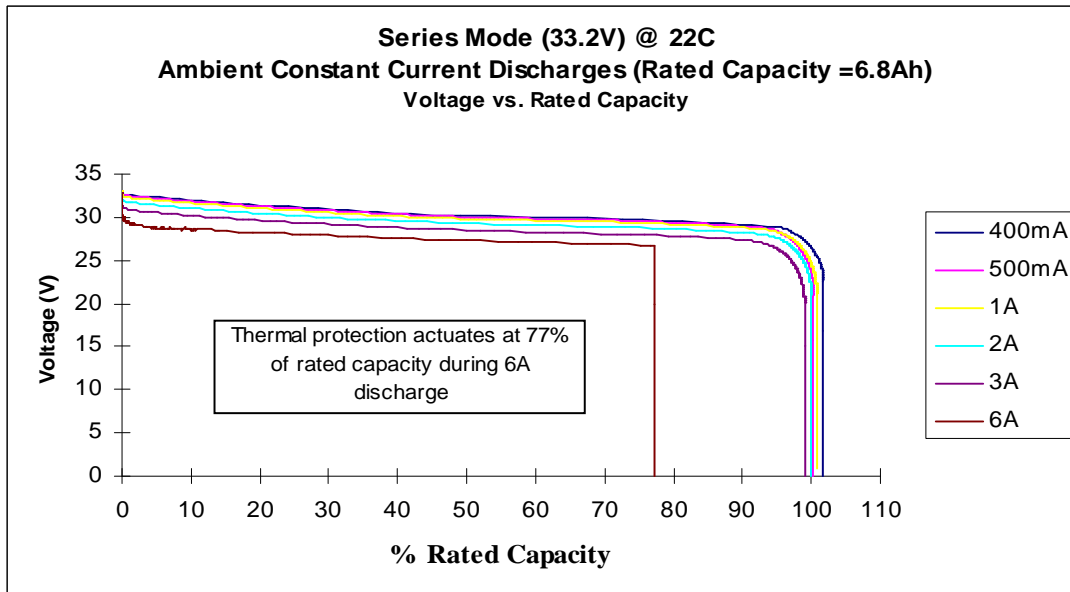

Figure 7
11.5. Series Mode Ambient Constant Current Discharges Voltage –v- Rated Capacity (Figure 7)